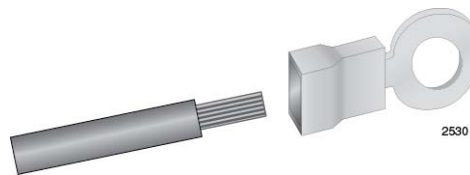

Figure 125. Attaching the Stranded Grounding Wire to the Grounding Terminal
2. Insert the grounding wire into the grounding terminal provided with the power supply and use a crimping tool to secure it to the grounding terminal. See Figure 125.